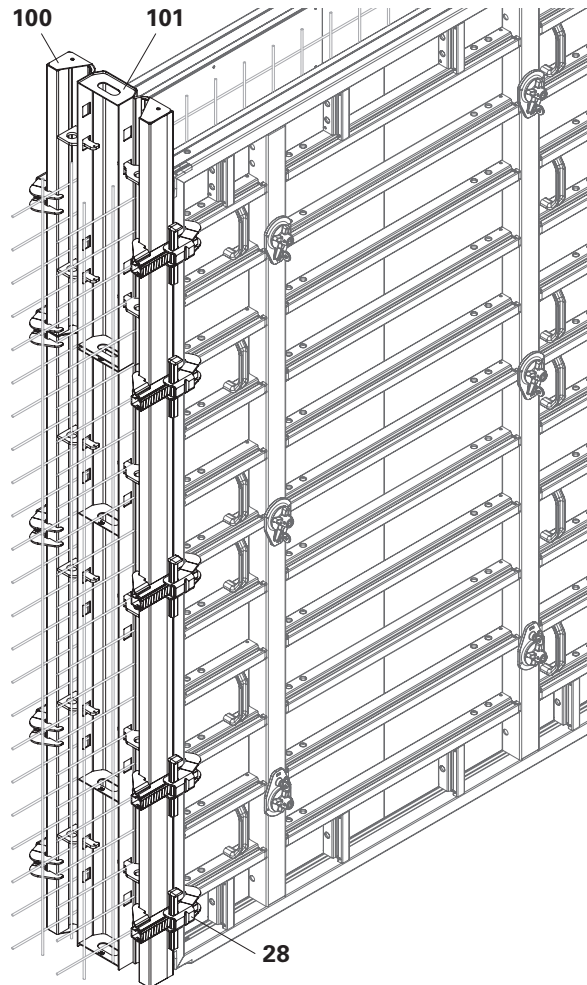

Fig. E8.05
2. Fix Stop. Panel TRIO AT (100) to the primary formwork by means of the Alignment Coupler BFD (28).
4. Position Stop. Panel TRIO MT (101).
6. Fix Stop. Panel TRIO AT (100) to the closing formwork by means of the Alignment Coupler BFD (28).
7. Position the closing formwork and in doing so insert Stop. Panel TRIO AT (100) into Stop. Panel TRIO MT (101).
- (Fig. E8.05)